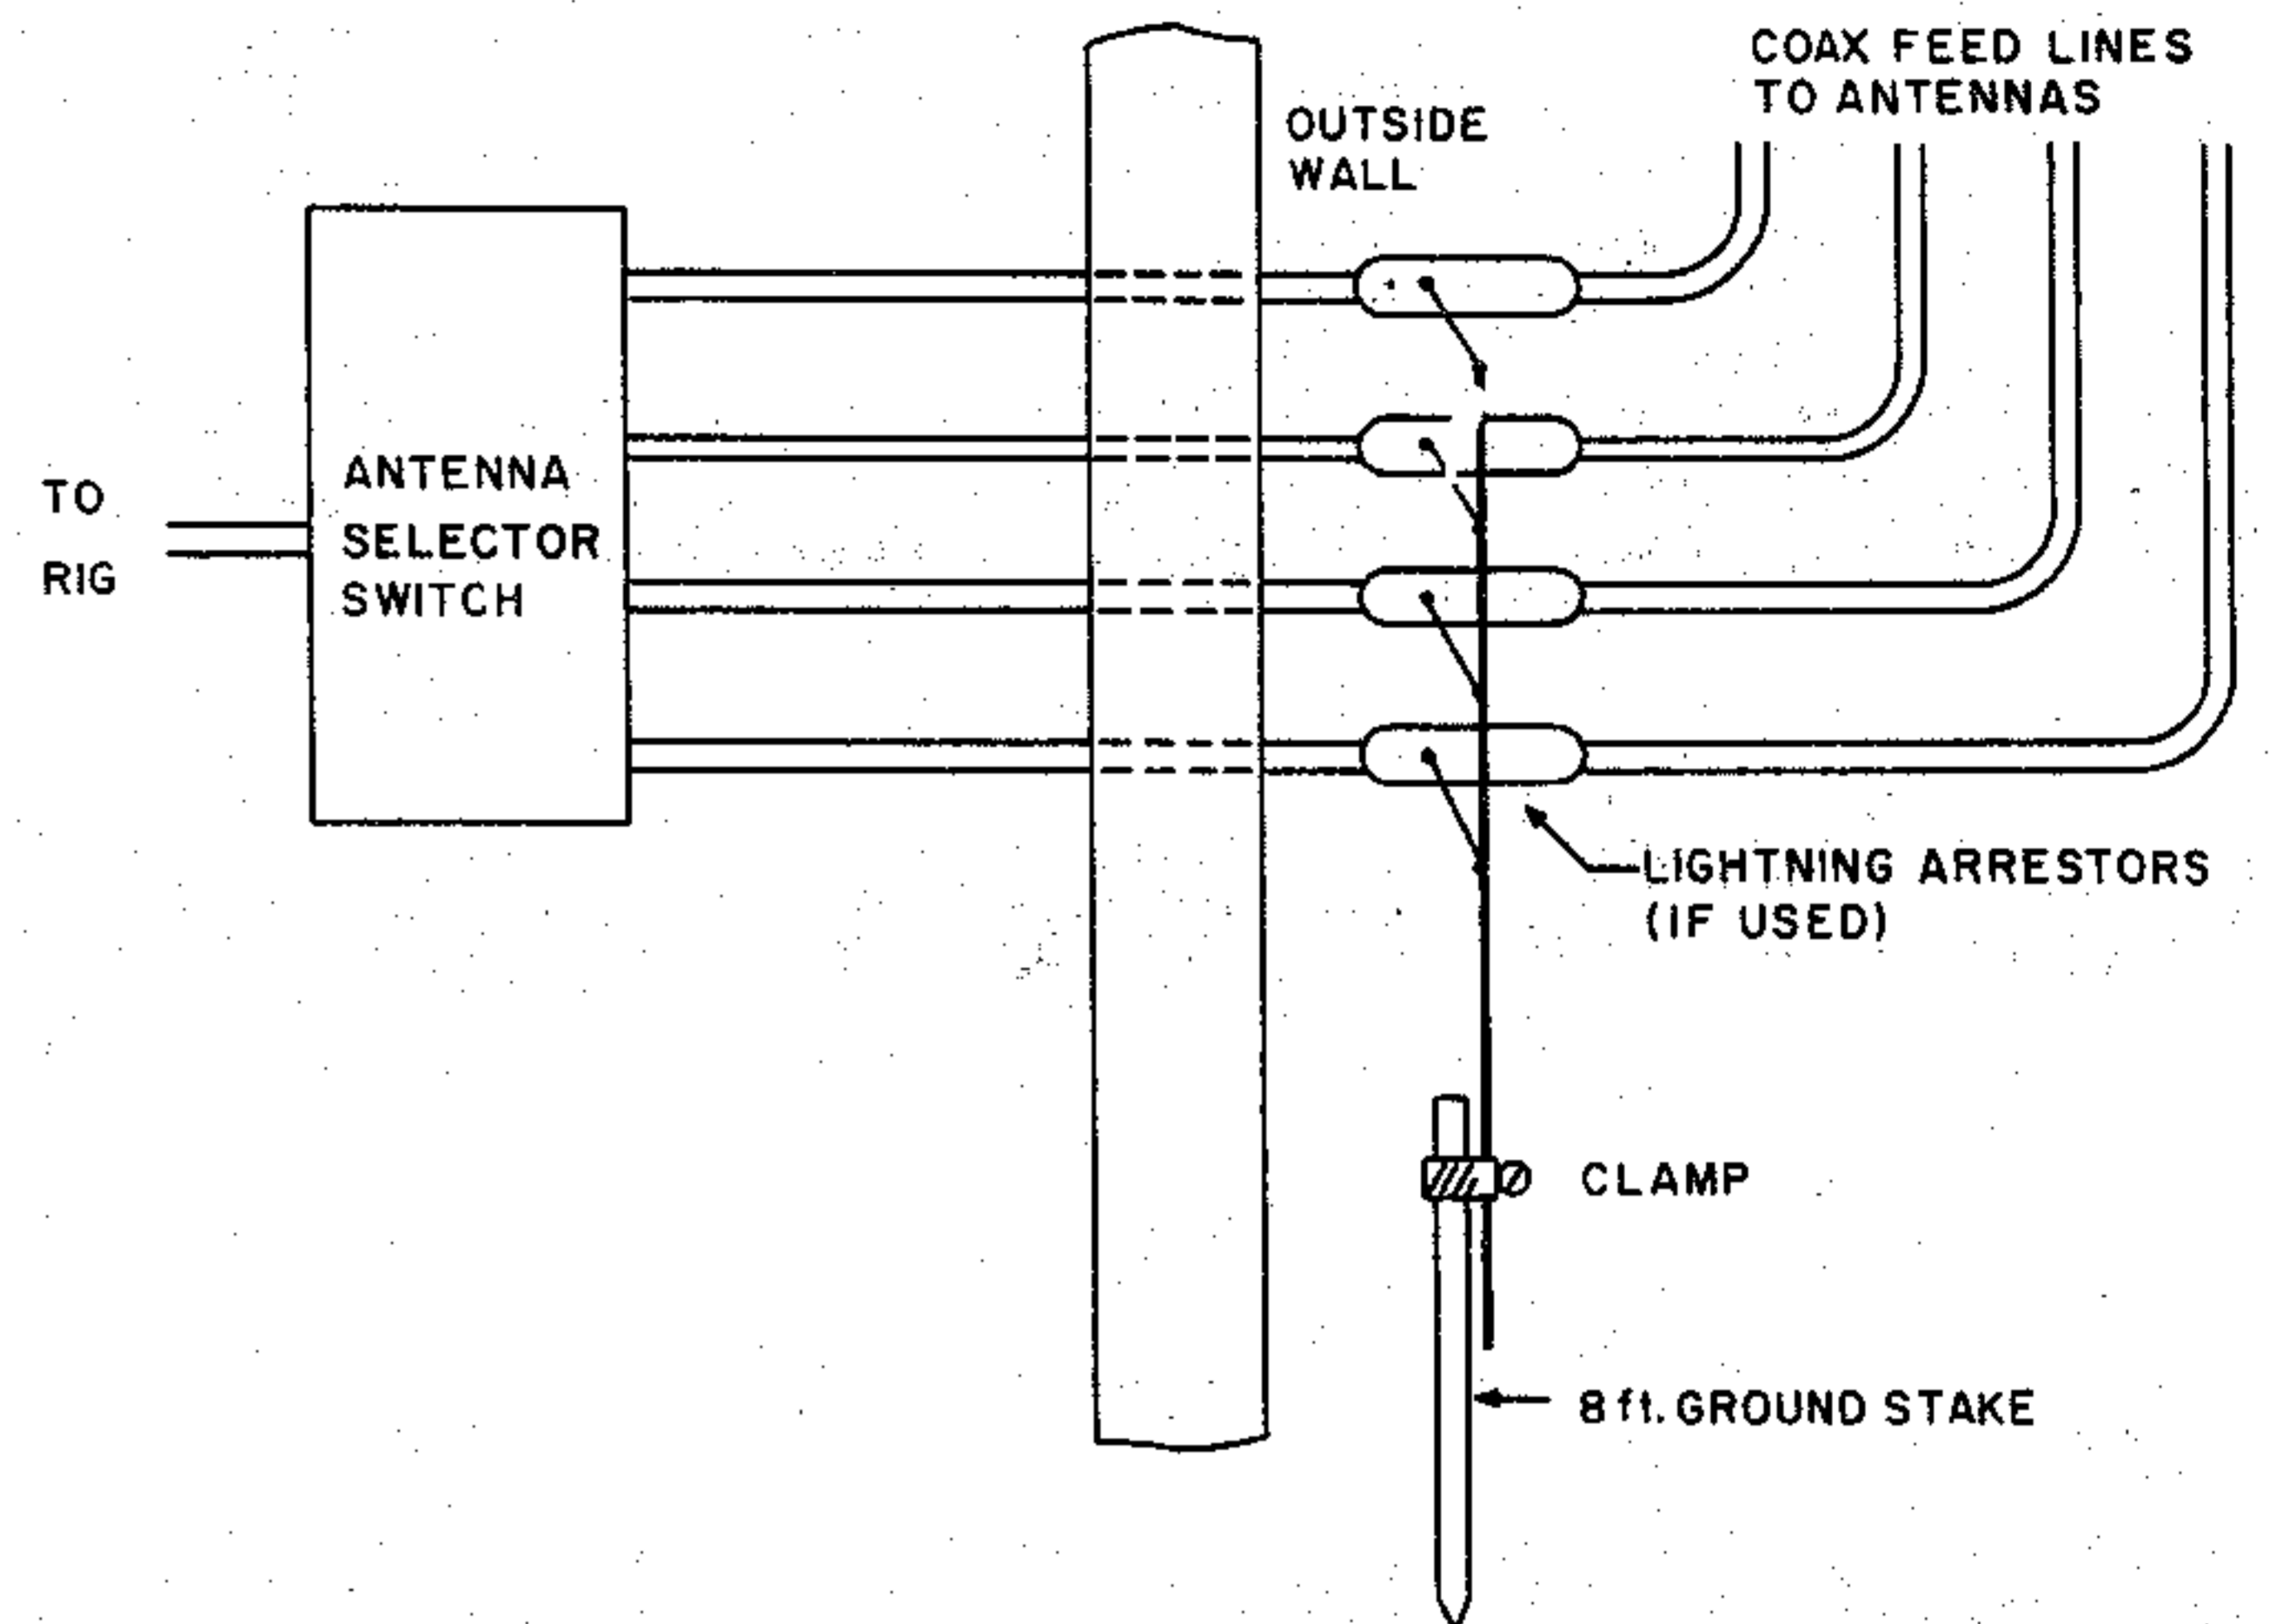

Fig. 4.
A. If you are using a coax-fed antenna, such as a dipole or beam, the shield of the coax will be connected through your rig or matchbox to the ground bus. But the bus plays little if any part in the antenna performance. However, if you are using a matchbox to feed a long wire with no radials, the ground bus provides the other end of the antenna circuit and is doubly important. See Fig. 4.